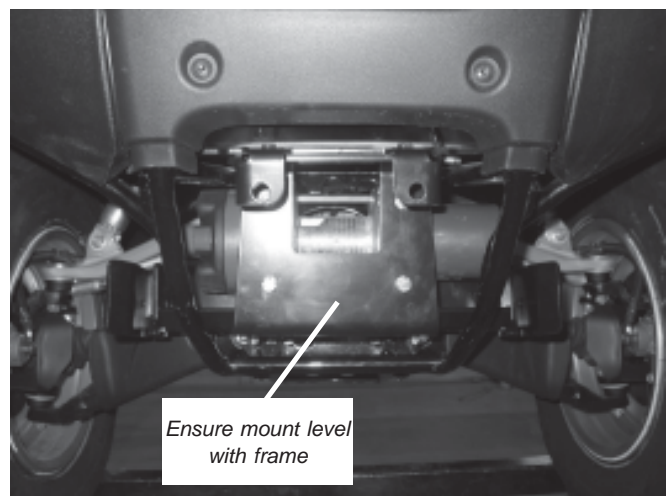

Figure 6
- As viewed from the front of vehicle, see Figure 6, make sure plow mount is level with vehicle frame. Once in place, tighten all hardware and torque to specifications. Winch cables can now be reconnected.